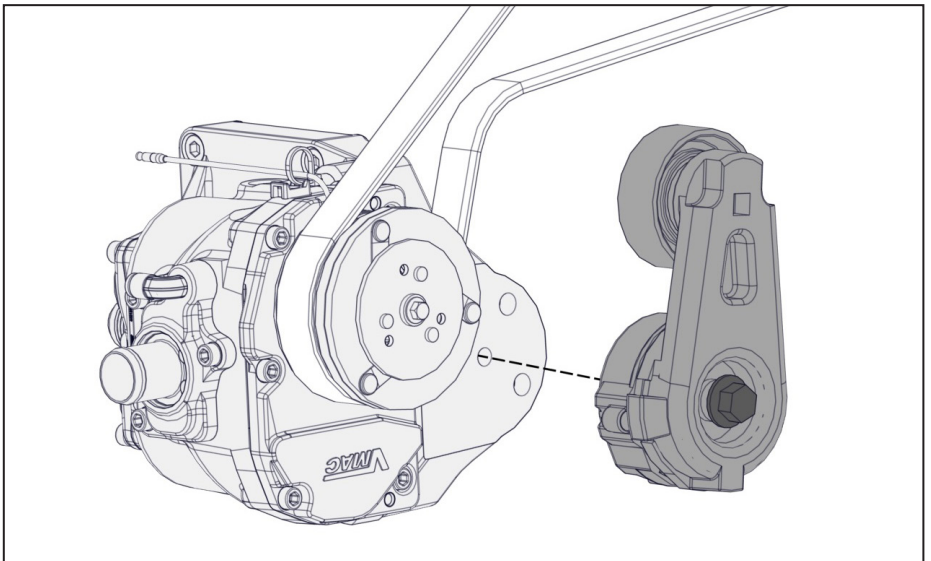

Figure 14 — Mount belt and tensioner
- Install the tensioner (Figure 14).